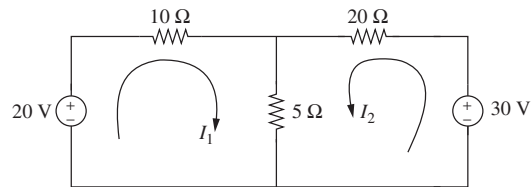

Figure P7.3 Two-loop circuit for problem P7-3.
- 7-3.** Consider the two-loop circuit shown in Fig. P7.3. The currents I_1 and I_2 (in amps) satisfy the following system of equations: